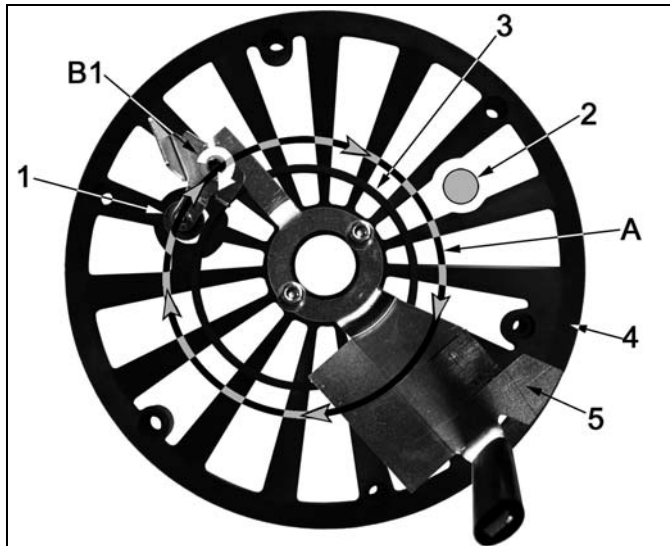
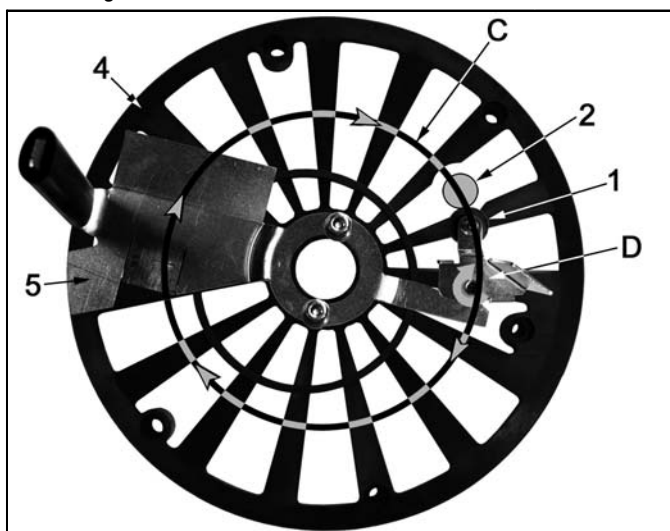

Fig. 14 Switching parts of the low-level control for grease (when reservoir is filled) B-P603S-030a08
Fig. 16 Switching parts of the low-level control for grease (when the reservoir is empty) B-P603S-030c08
- The stirring paddle 5 (Fig. 14) rotates **clockwise** during the lubricating time. Thereby, the pivoted guide plate is deflected by the eccentric 3 and the round solenoid 1 (B1).
- As soon as there is no lubricant to counteract against the deflected guide plate, the guide plate remains in the deflected condition B1 (Fig. 14) respectively D (Fig. 16).